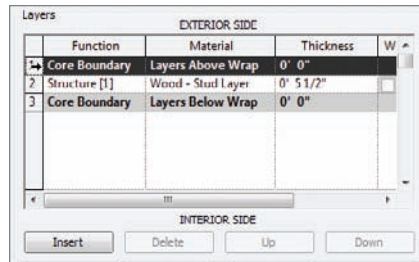

FIGURE 16.3 Clicking on row 1 to highlight the entire row
As you can see in Figure 16.3, the Layers area is broken down into two categories: Exterior and Interior. For the following procedure, we will add materials to both the exterior and interior portion of the wall.
1. In the Layers area, click on the number 1, as shown in Figure 16.3 (it is the field just above the Layers Above Wrap row).